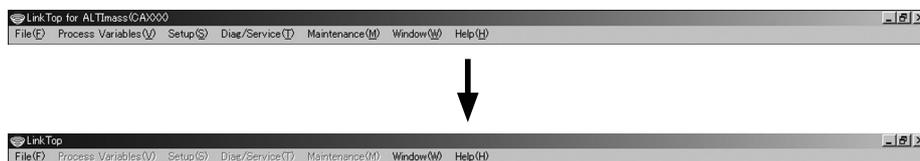

Fig.14
- ④ When connection is terminated, part of the menu turns to be inactive (characters turn to white in color) as shown in Fig. 14.